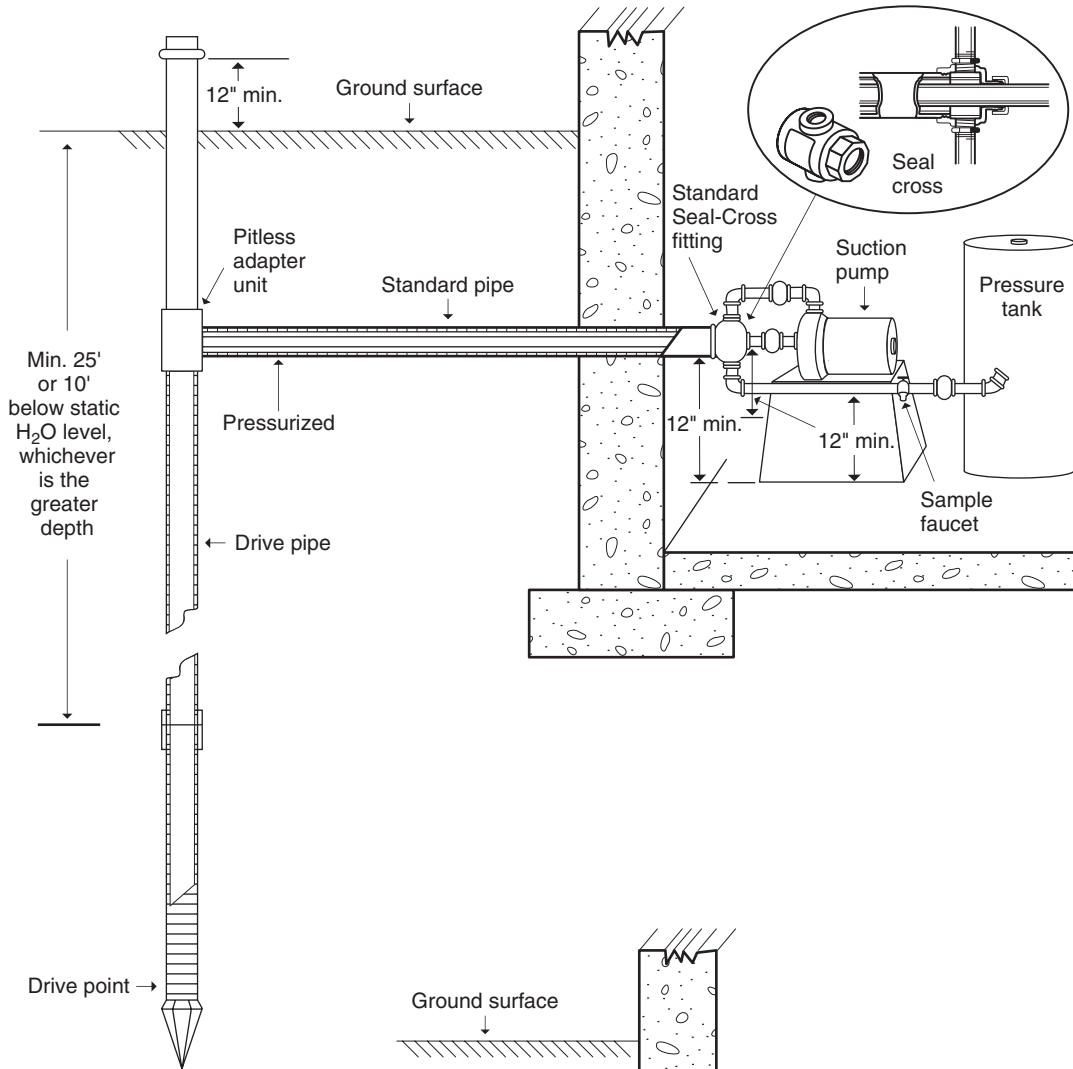
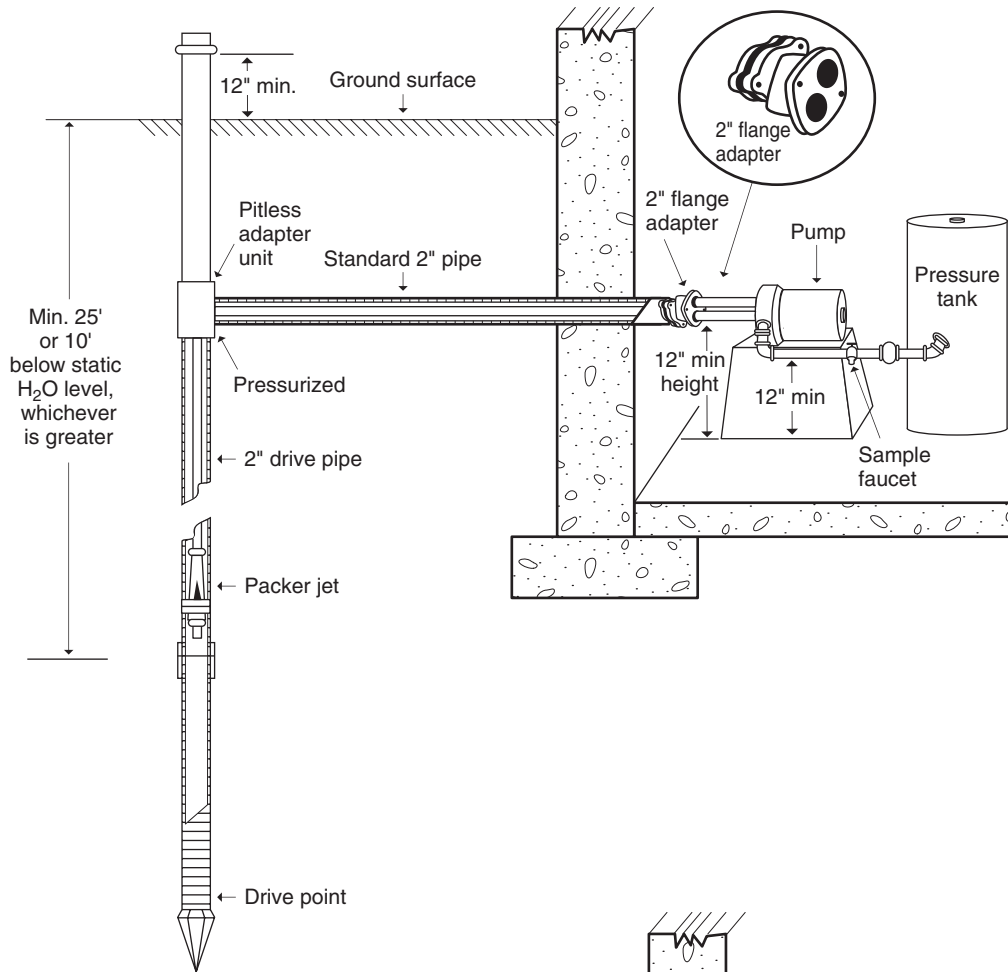

Figure 2.
Figure 3.
- ▼ **Minimum Diameter:** There is no minimum diameter for driven point wells installed with a **shallow** well pump. Atmospheric pressure of about 14.7 pounds per square inch allows a **shallow-well** pump to **pull** water up from a maximum depth of only about 20 feet (Figure 2). However, if you know the pumping water level will be deeper than about 20 feet, then you must use drive pipe having a minimum diameter of at least 2 inches. This is necessary because the drive pipe must be large enough to accommodate a **packer-jet assembly** to be installed within the pipe to enable the pump to **pull** water up from a greater depth. (See Figure 3). Remember, you are **not** allowed to construct a pit to get the pump closer to the water table to enable you to use a shallow-well pump.
- ▼ The annular space between the concentric piping must be pressurized under water pressure by installing a **seal-cross fitting** or a **flange adapter**. (Figure 2).
- ➔ Offset connection using horizontal pressurized concentric piping if the well is installed outside with the pump **offset** in the basement (Figures 2 and 3).
- ➔ Shallow-well jet suction pump for water levels less than about 20 feet deep. (Figure 2).
- ➔ Deep-well type pump with a packer-jet assembly for water levels deeper than about 20 feet. The minimum well diameter for this type of pump is 2 inches to accommodate the installation of the jet assembly in the well (Figure 3). This type of pump can be used efficiently for wells having pumping water levels down to about 70 to 100 feet.